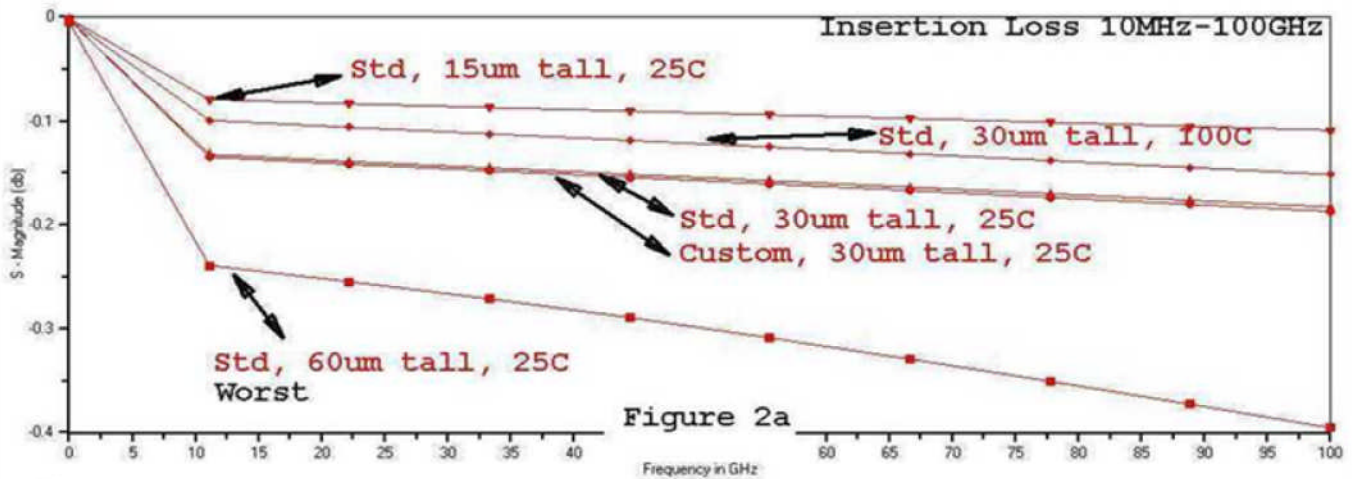

Figure 2a
Five variations were created and analyzed with various via dimensions and pitches. Other manufacturing variables could have also been defined for a specific process but were held constant. Figure 2a shows how Insertion Loss varies for each test structure. Insertion Loss (IL) measures the signal's degradation through the via. The smaller the IL, the better the performance will be. In this case the best is the 25um pitch, 15um tall, 2.5um diameter while the worst is 25um pitch, 60um tall and 2.5um diameter. Comparing the five structures against each other for IL, at 4GHz, there is a 3x degradation variation and it continues to widen as the frequency reaches 100GHz. Depending on the application and signaling required, any of these variations might meet the requirements. The variation chosen would both meet the requirements and be lowest in overall costs.